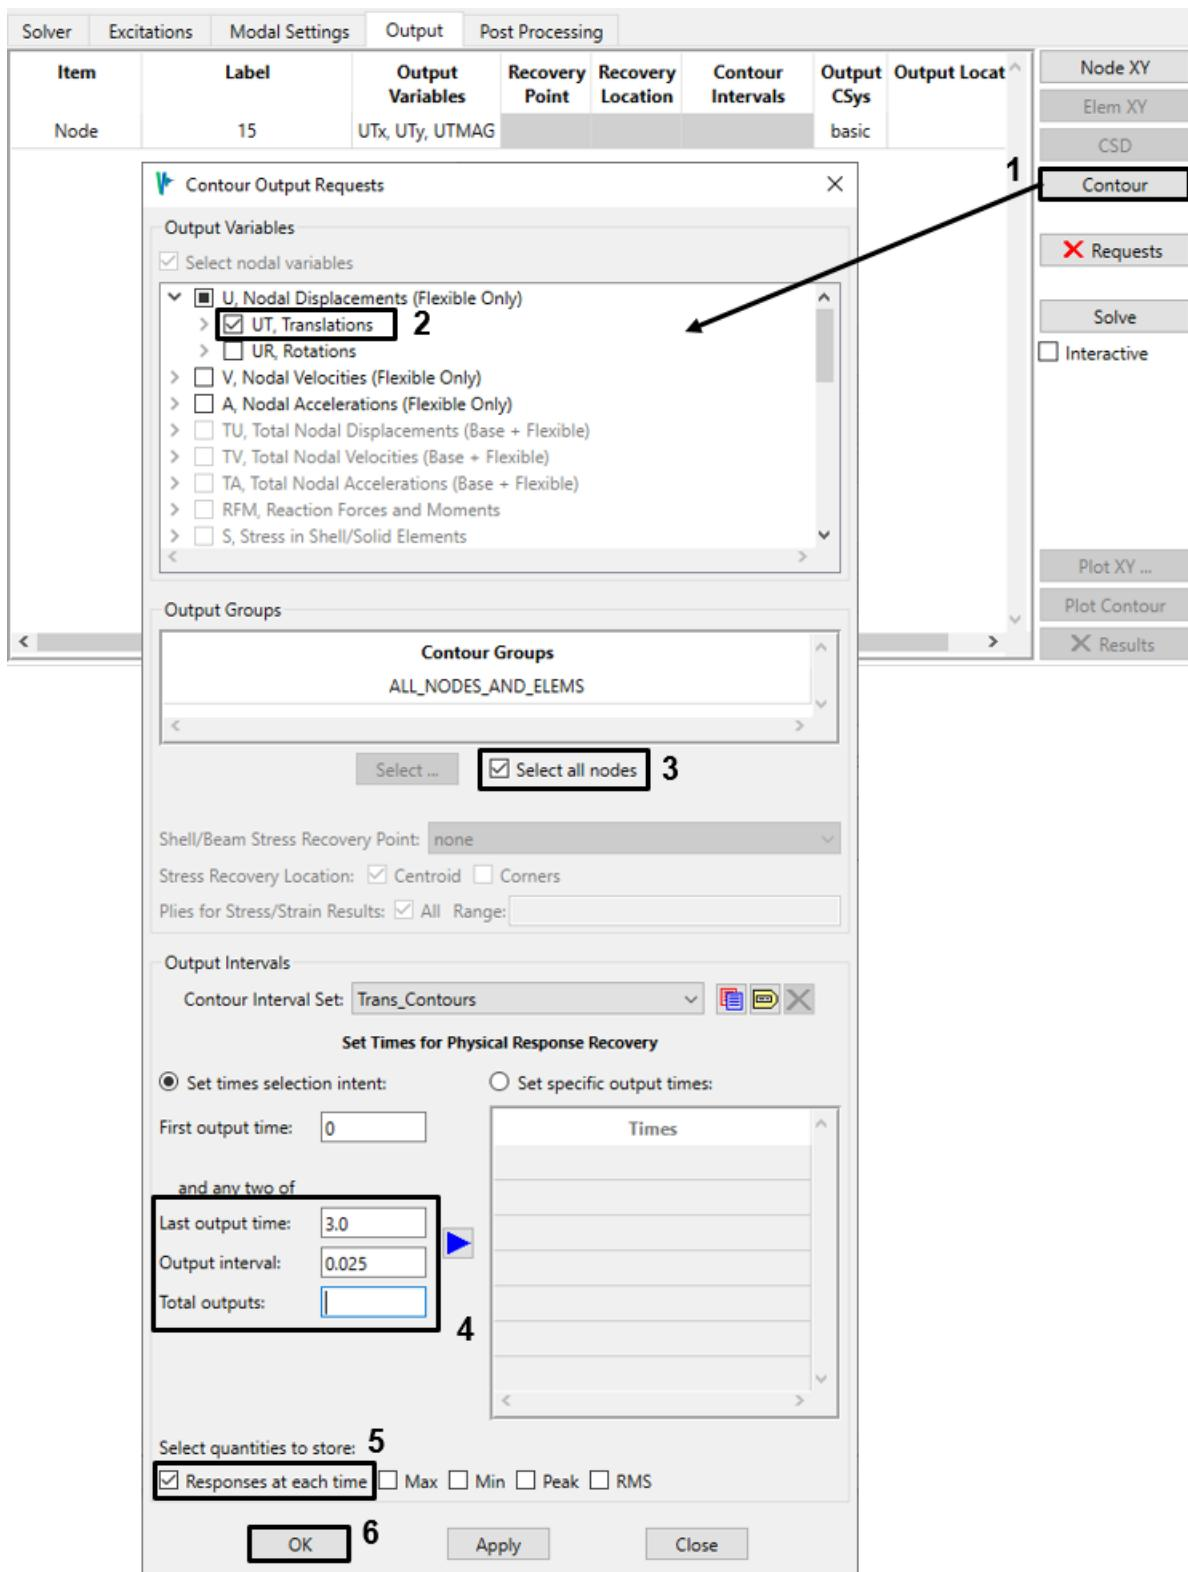
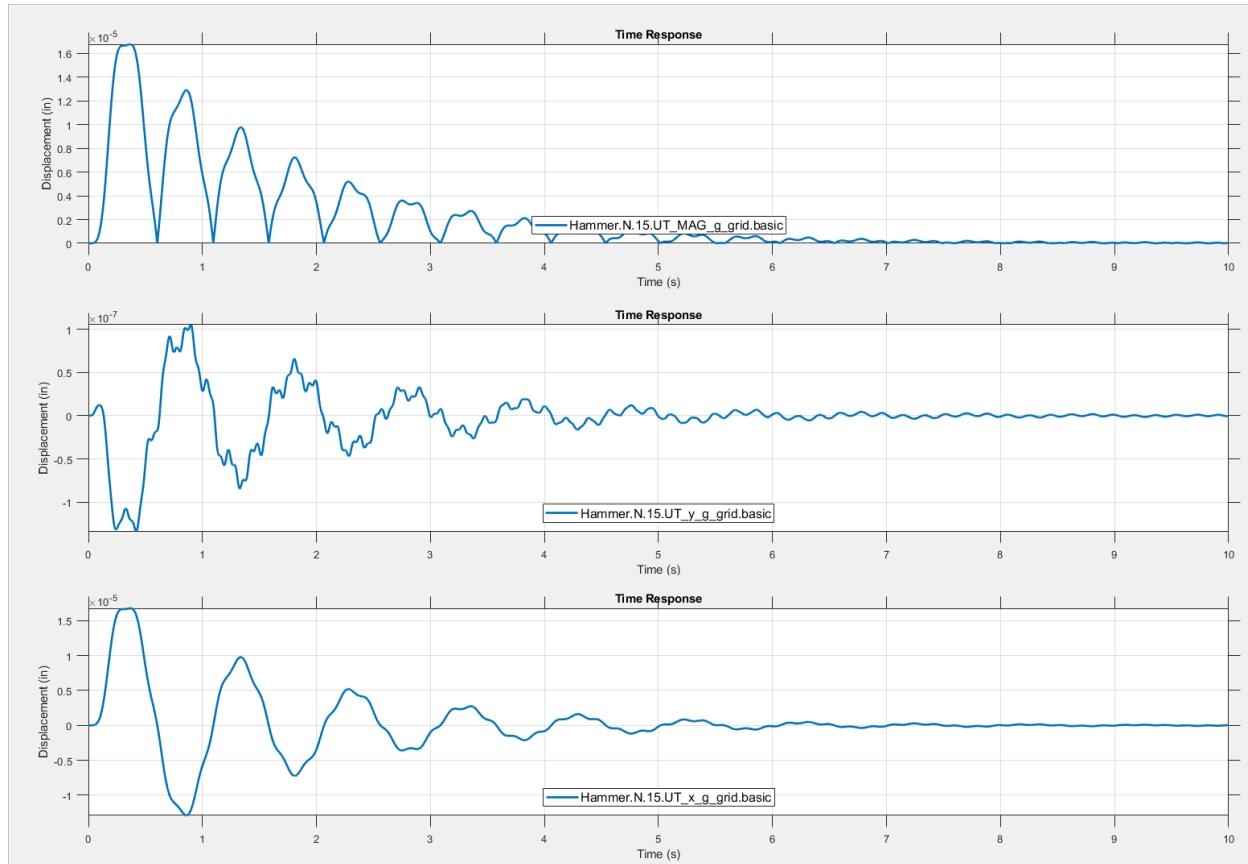

Figure 4-120. Request displacement (UT) contours for the first 3 seconds of the event.
Figure 4-121. Transient displacements for node 15.
8. In order to create an animation of the structure in motion, create a contour request for displacement (UT) at all nodes (Figure 4-120). Enter 0.0 for the *First output time* and 3.0 for the *Last output time* to create contours from 0.0 to 3.0 seconds. We have selected 3 seconds as the end time because the structure's response will decay to about 30% of its maximum by then (see Figure 4-121). Set the *Output interval* to 0.025 (seconds) and leave *Total outputs* blank. This will produce 121 time frames for
9. Solve the event. Click the **Plot XY** button to view the requested nodal displacement histories. These are shown in Figure 4-121 using the *stacked* plot mode. Note the different orders of magnitude on the Y-axis labels.